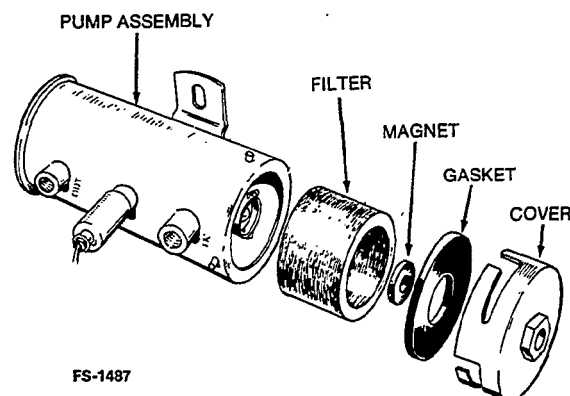

FIGURE 20. REMOVAL OF MAGNET AND FILTER
2. Remove the filter, magnet and cover gasket (Figure 20).